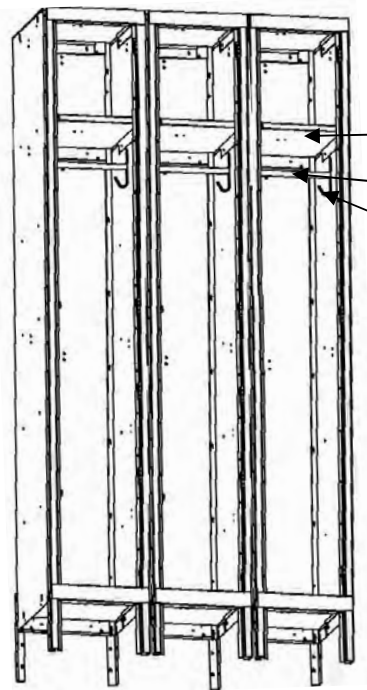

Figure 4a - Final Assembly (Single Door)
Stand the unit upright, and assure that all the bottoms have been properly seated by lightly tapping it down with a rubber mallet. **After assuring that the tops & bottom flanges are fully seated into the brackets, insert two (2) black pins (L) to each add-on bracket to help secure the brackets to the sides & backs.** Next take the remaining shelves (E), and orientate them so that the 45 degree bend is toward the door opening. Angle the shelves so they fit to the inside of the unit. Align the side holes of the shelves with the second set of holes counting down from the top located on the sides. Using the #10-24 x 3/8" screws (M), insert them through the holes of the sides and through the shelves. Install the nuts and tighten appropriately. Next install one (1) coat rod hook (I) into the two holes located on the side just below the installed shelves. Use the #10-24 x 3/8" screws and nuts and tighten appropriately. Install the coat rods (H) onto the extension of the installed hooks, and align the other hook extension to the coat rod. Next align the coat hooks to the holes of opposite sides. Finalize by using the #10-24 x 3/8" screws and nuts and tighten appropriately (see figure 4a for reference).